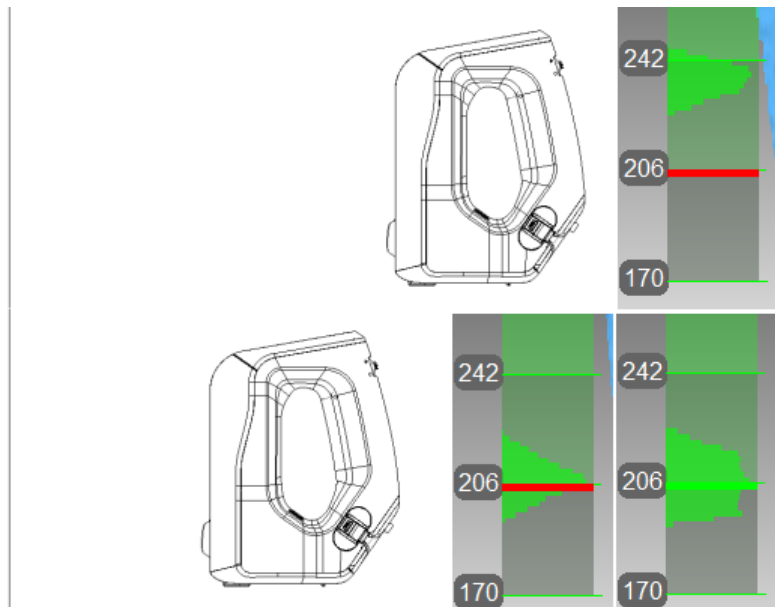

Figure 132: Artec Spider scanner's position and corresponding distance on the range meter.
7. Move the scanner smoothly toward the flat surface such that the histogram peak coincides with the red mark on the range meter (see Figure 132).